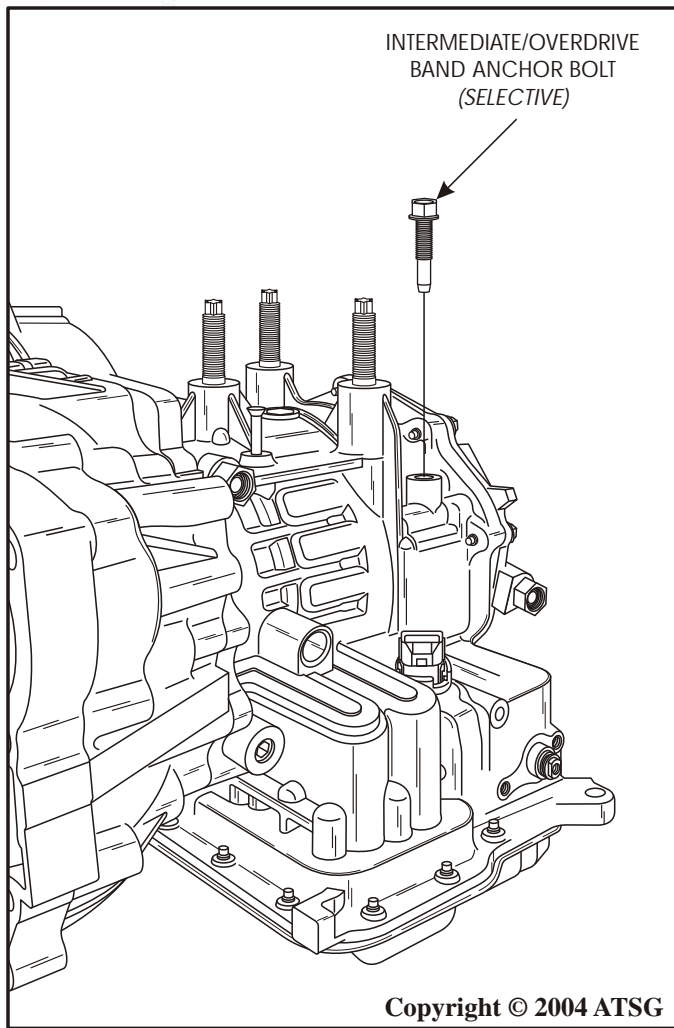

Figure 24
7. Remove the intermediate/overdrive band anchor bolt, as shown in Figure 24.